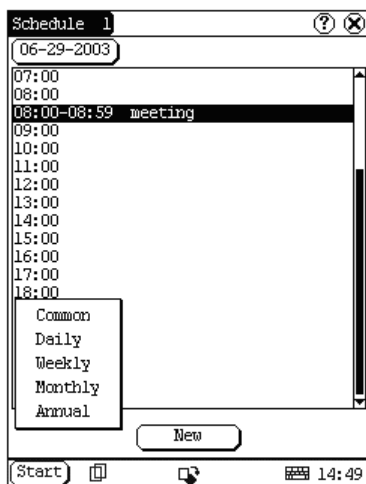

Fig 4-26
- 1) In the Schedule interface, click [New] button so that the Cycle list pops up. See Fig 4-26.